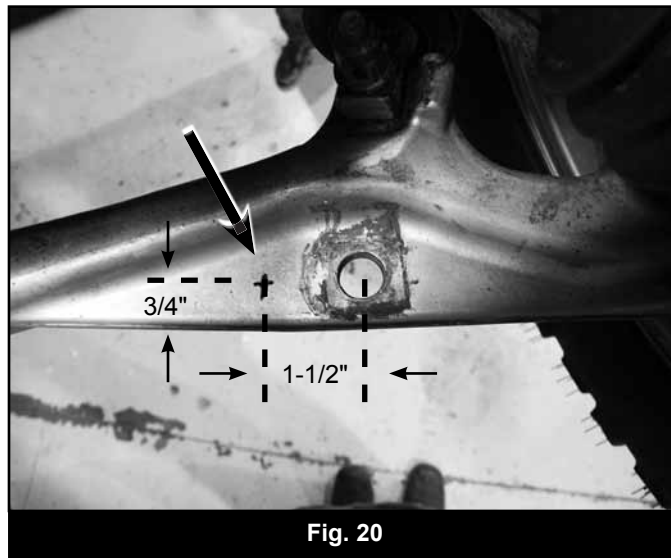

Fig. 20
43. Locate the original sway bar link mounting hole on the lower control arm. Measure inward from the center on the hole 1-1/2" (toward the frame mount) and mark. Measure in from the back edge of the control near the first mark 3/4" and mark. Where the two marks cross drill a 5/8" hole (Fig 20).